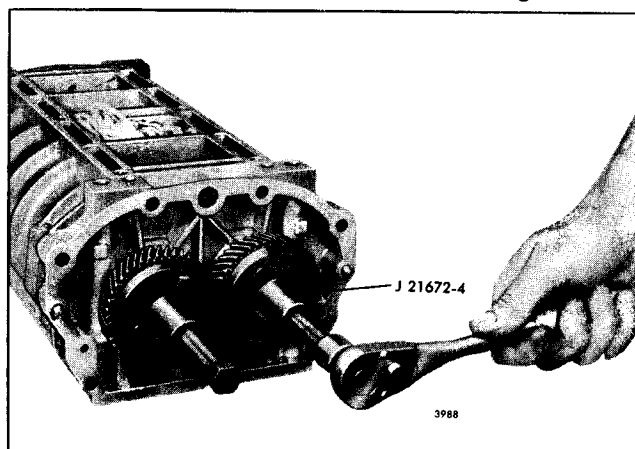

Fig. 5 - Removing Rotor Gears
2. Remove the two bolts and pilots (43) securing the blower rotor gears to the blower rotor shafts.
3. Remove the blower rotor gears with pullers J 21672-4 (Fig. 5). Both rotor gears must be pulled at the same time as follows:
and housing to prevent them from turning, turn the puller screws uniformly clockwise and pull the gears from the rotor shafts as shown in Fig. 5.